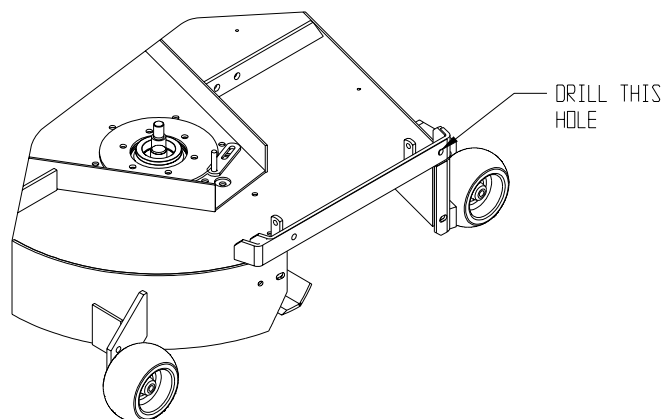

FIGURE 4
- 2.3.12 72" units serial number 259,999 and below will require the deck to be modified by adding the accessory mounting tube. Exmark kit 103-0583 contains the parts and templates required. Follow the instructions in this kit. These decks will also require drilling the hole at the front upper corner of the discharge opening to 1/2 inch diameter. (See Figure 4). Touch up with red paint Exmark P/N 1-850337.